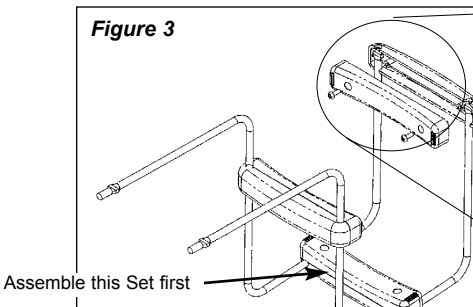

Figure 3
2. To assemble the Exit Tray, you will need a #2 Philips screwdriver, the 2 Metal Brackets, and the (3) Exit Tray Connector Sets (each set contains one top plastic piece, one bottom plastic piece, and two screws). Assemble each Exit Tray Connector Set onto the Metal Brackets as shown in Figure 3. **Hint:** It may be easier to assemble the middle Connector Set first, as noted below.